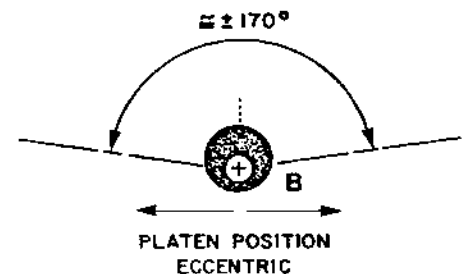

Figure 5-21
- # Refer to Table 5-1. Move the carriage from one end of its travel to the other end. Stop the carriage at each end and, using flexible (plastic) thickness gauges, check the clearance between the platen surface and the tool's platen adjustment tab(s) (C) per the dimensions listed in Table 5-1 for the model printer being serviced.
- # Adjust the rear (platen position) eccentric (B), or slot on each side as necessary to achieve a platen horizontal position adjustment within the tolerances specified in Table 5-1. Figure 5-21 depicts the approximate limits of adjustment for these eccentrics.